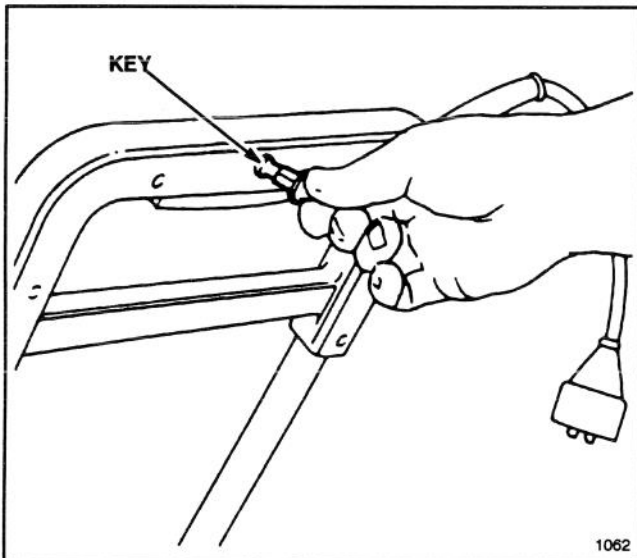

Figure 4
2. Plug the extension cord into a wall outlet. Insert key into hole at rear of handle (Fig. 4).